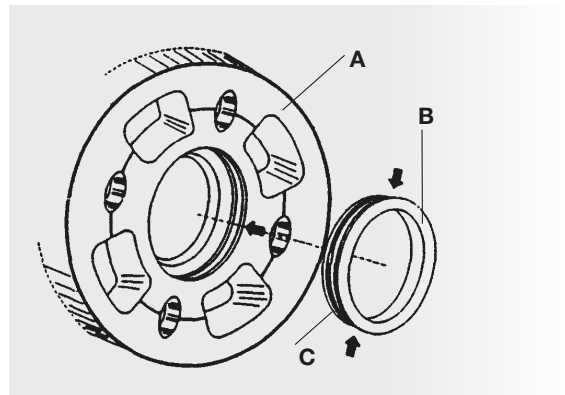

Fig. 4 - Installation of centering rings
- Place the centering ring (B) on the wheel hub (A) by pressing the retaining snap ring (C) with your fingers (C) (fig.4)
- Check the proper insertion of the retaining snap ring (C) in the corresponding seat (D) as determined by the locking of the centering ring is properly locked in the wheel hub (Fig. 4).